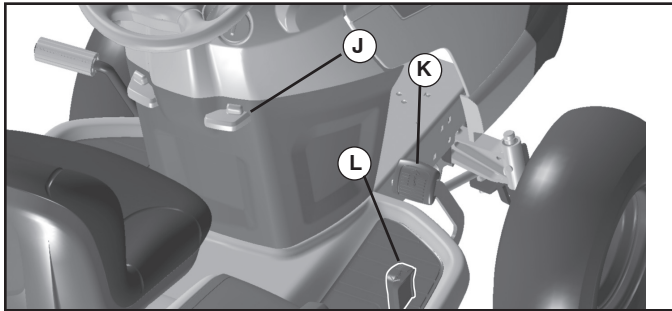

FIG. 7
(See Fig. 7)
- Slowly depress forward (K) or reverse (L) drive pedal to begin movement. Ground speed increases the further down the pedal is depressed.
## TO USE CRUISE CONTROL (J) (See Fig. 7)